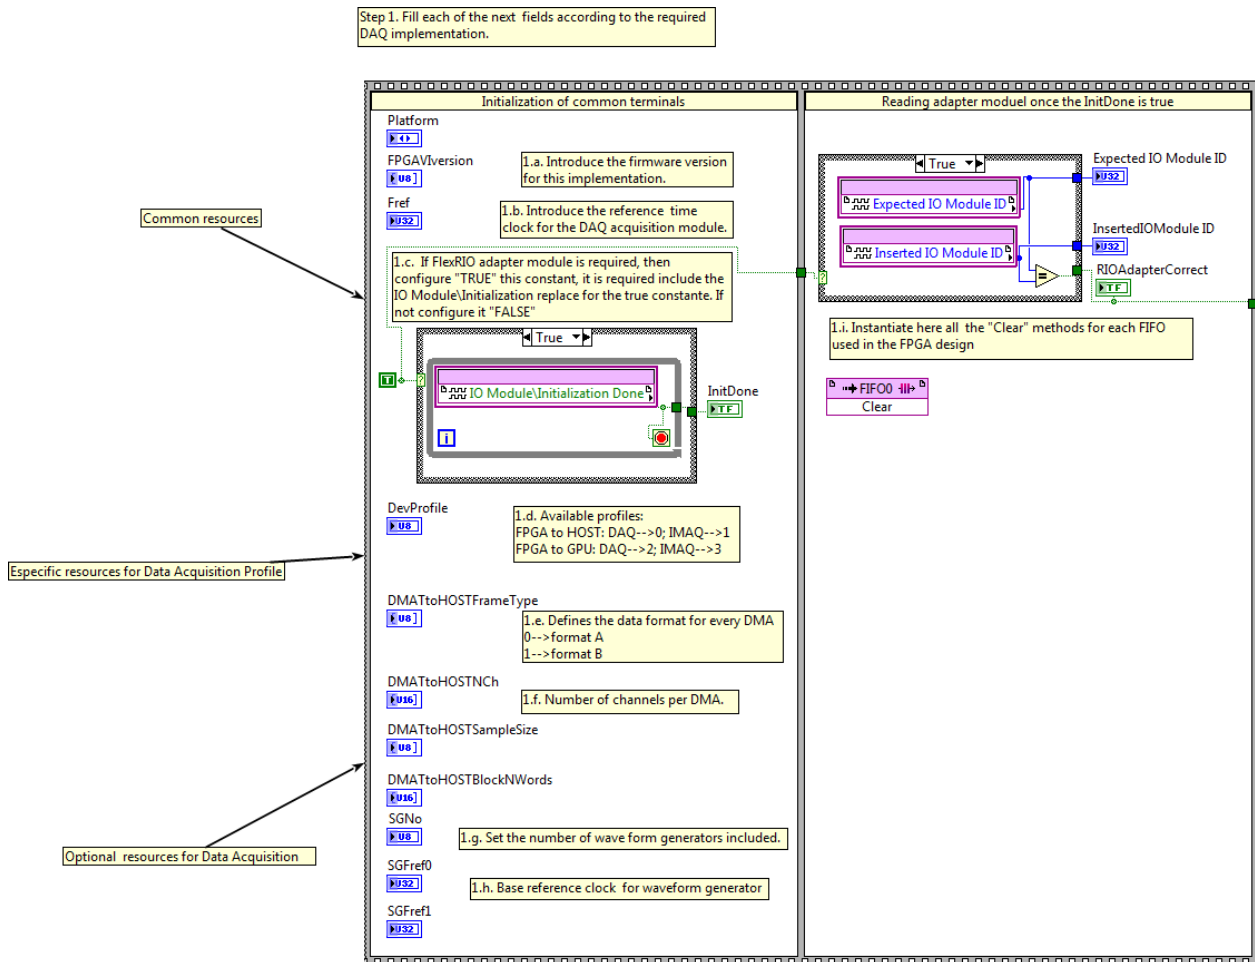

Fig. 24: Initialization examples of some mandatory terminals in LabVIEW/FPGA. Part a
**SGNo:** U8 indicator. This indicator is initialised with the number of waveform generators included in the design. Value zero means no signal generator implemented. The values allowed are from 0 to 2 (see Fig. 24).
The LabVIEW/FPGA VI implementing the solution is explained in the following paragraphs. The first part of the VI has to include the necessary elements to perform the description of the design and initialize all the resources. Fig. 24 displays the LabVIEW code used to implement the basic initialization of the terminals.
5. There will be an **U32** indicator named **ExpectedIOModuleID**. If the FPGA does not have an adapter module connected, then the programmer will initialise it with the value 0; if not, it will take the value from an I/O Modules Status element called Expected IO Module ID (see Fig. 24 and Fig. 28).
6. There will be a **Boolean** indicator named **RIOAdapterCorrect**. If the FPGA has an adapter module, it will be necessary to check whether the connected adapter module is the correct one as specified in a particular bitfile version. The IO Module Status element of the FPGA offers the Inserted IO Module ID element, which can be used for comparison with the Expected IO Module ID. Thus, it can be determined whether the RIO adapter is the correct one for the bitfile downloaded (see Fig. 24 and Fig. 28).
8. There will be a **U32** indicator named **Fref**, which will be initialised with the reference clock value for sampling purposes. The sampling frequency may vary, but it is always a divisor of the reference clock (see Fig. 24 and Fig. 28).